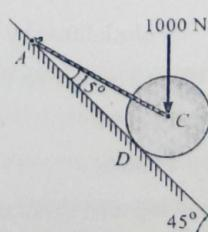

Fig 2.7
- 3) A roller of weight $W = 1000 \text{ N}$ rest on a smooth incline plane. It is kept from rolling down the plane by a string AC. Draw free body diagram for given fig 2.7.